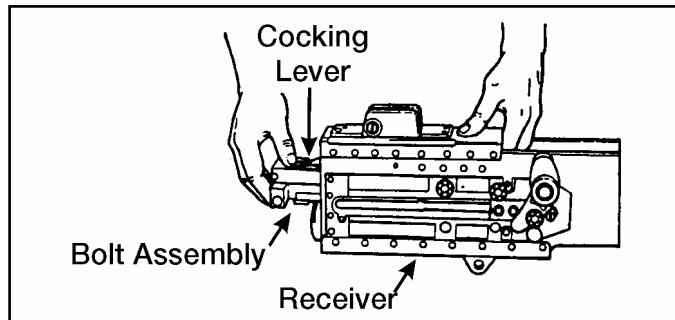

Figure 071-022-0001-38. Installation of the bolt assembly
(19) If you cannot install the bolt this way, remove the barrel extension and buffer assembly from the receiver. Install the bolt assembly into the barrel extension and buffer assembly and then install them in the receiver (figure 071-022-0001-39).